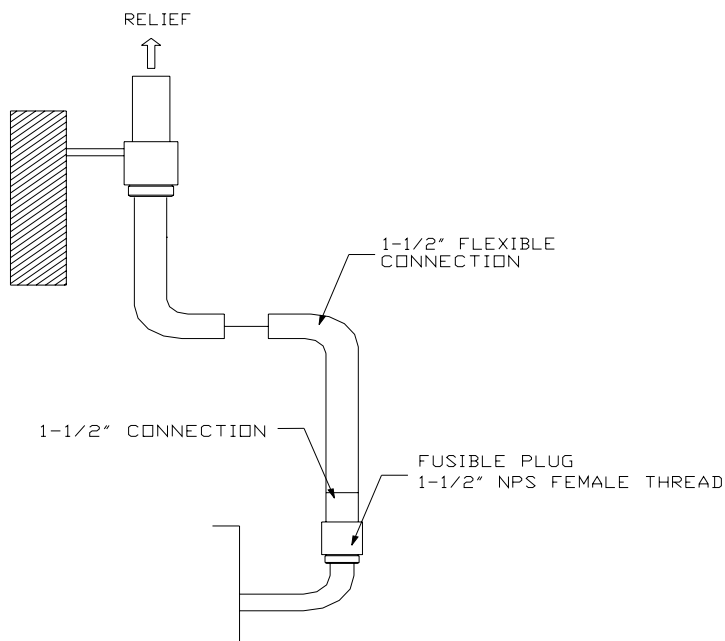

Fig. 3-9.Fusible Plug Relief Piping
- 3) Install pipe hangers where needed to be sure no weight or stress is placed on the fusible plug. (Fig. 3-9)